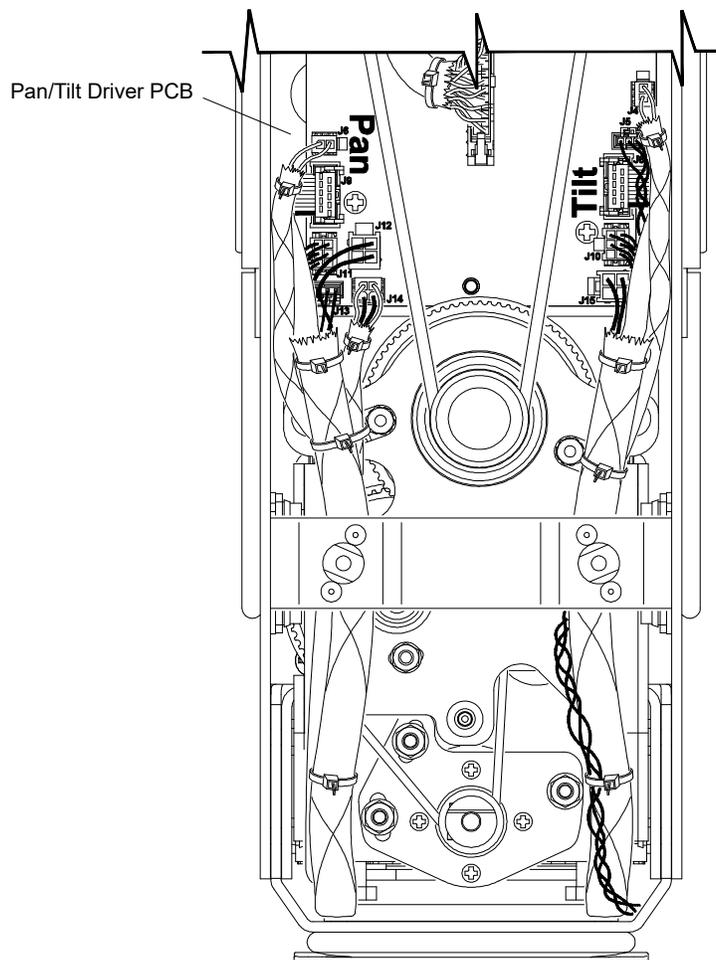

Figure 3-60: Tilt-Side Yoke Leg with Pan/Tilt Driver PCB
- Step 3. At Pan/Tilt Driver PCB, disconnect pan and tilt drive cables (**Figure 3-60**).
- Step 4. At Pan/Tilt Driver PCB, disconnect pan drive cables (**Figure 3-60**).